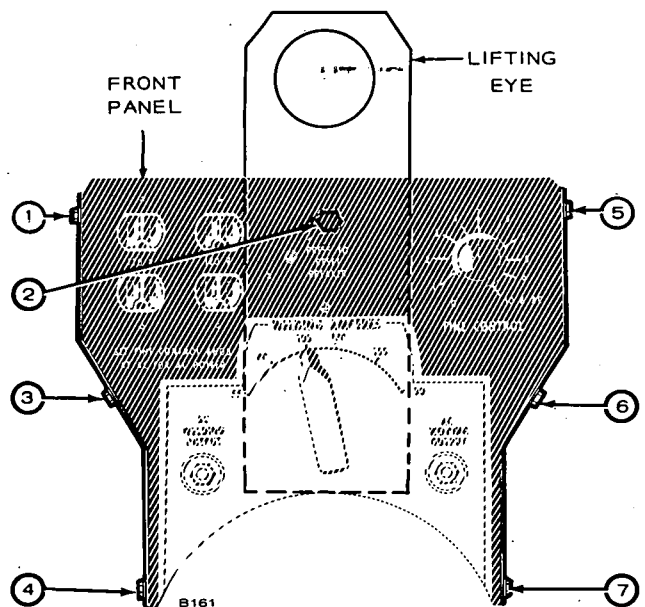

FIGURE 6. REMOVING FASTENERS
3. Remove the seven fasteners as shown in Figure 6, then remove the front panel.